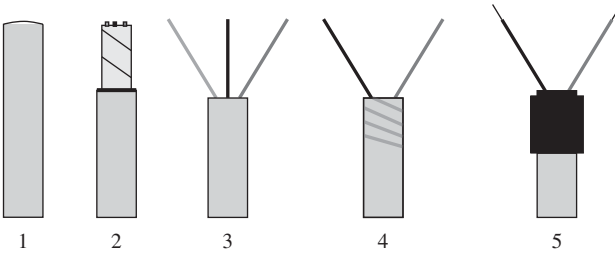

Figure 4-6c
Figure 4-6c is a method for terminating a shielded twisted-pair cable.
3. Remove the shield and separate the wires. In Fig. 4-6c the light gray wire is the shield, the black wire is the R (receive data), and the dark gray wire is the T (transmit data).